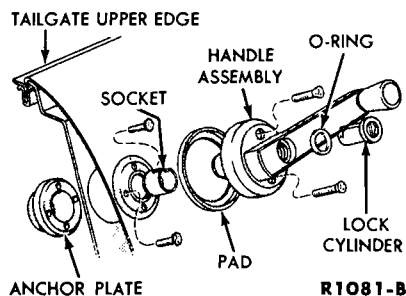

FIG. 34—Tailgate Window Regulator Handle Installation—Typical
1. With the tailgate window in the closed position, unlock the tailgate handle, and rotate the handle assembly to reveal the mounting screws (Fig. 34).